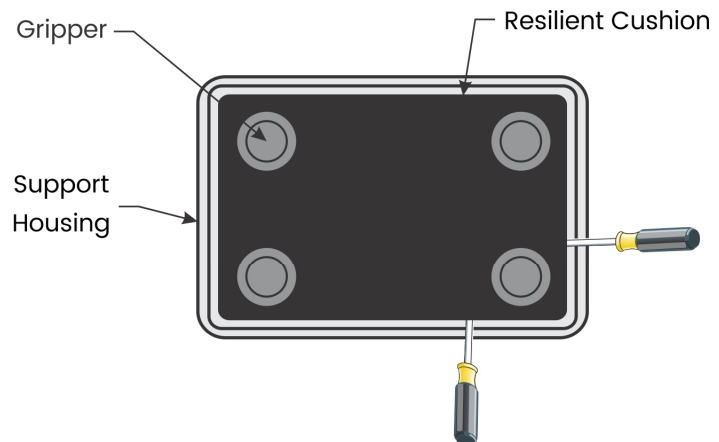

Figure 4
11. Insert a second screwdriver on the opposite side of the Gripper as per Figure 4.